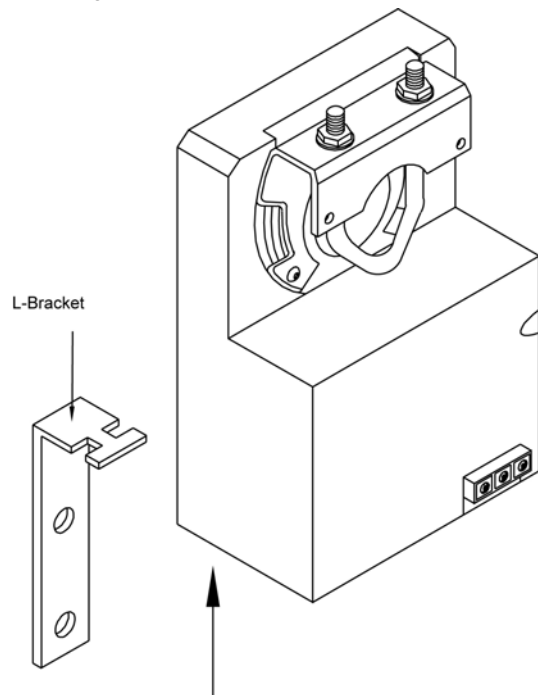

Figure 9. Mounting Bracket Placement
6. Slide anti-rotation bracket (L-bracket) up and under actuator engaging center cutout on actuator back, see Figure 9.